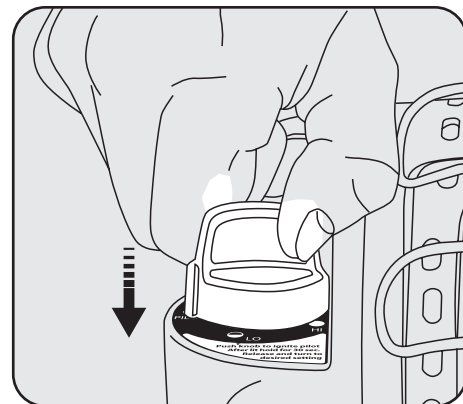
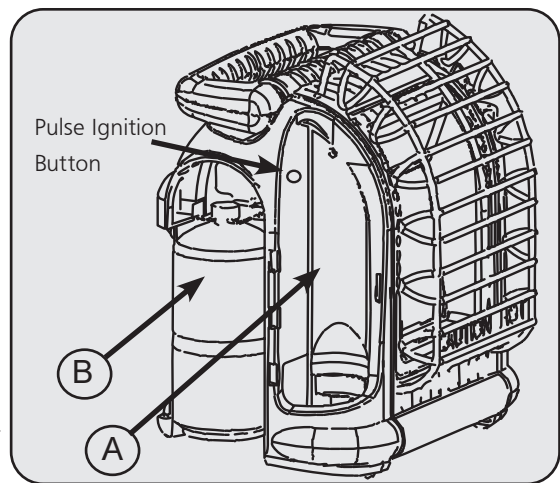

Figure 3
Figure 5
4. Turn Control Knob counterclockwise to "PILOT" position and depress. See Figure 3. Depress the pulse ignition button located in the accessory compartment (see Figure 5 on pg 7), while holding pilot button down.
6. Turn Control Knob counterclockwise to "PILOT" position and depress. See Figure 3. Depress the pulse ignition button located in the accessory compartment (see Figure 5 on pg 7), while holding pilot button down.
The MH12HB has two storage compartments, with access doors, on the left side of the heater. See Figure 5 on pg. 7.